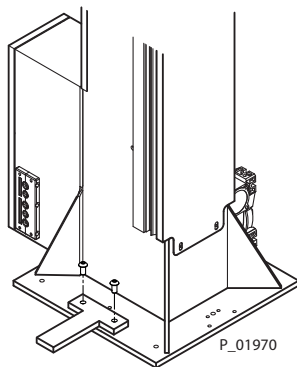

Fig. 2
11. Fasten the carrier to the energy chain with the two delivered screws (Fig. 2).